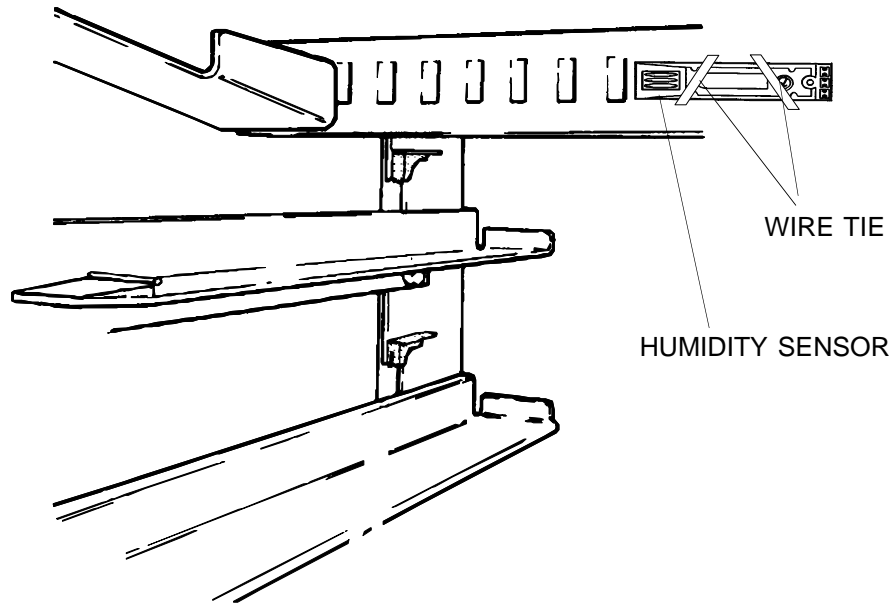
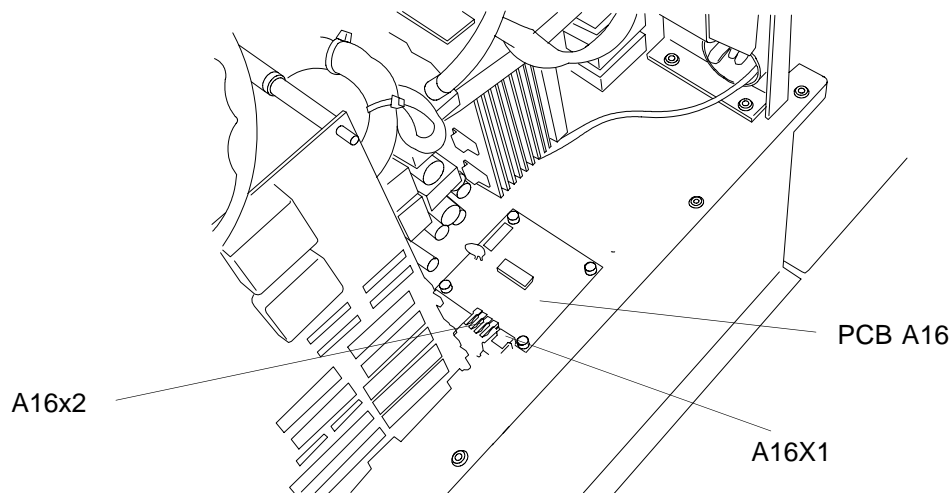

figure 3-2
figure 3-3
6. Fix the HUMIDITY SENSOR with 2 large WIRE TIES to the front of the CABLE DUCT. See figure 3-2. Route its cable through the DUCT to the side of PCB A1.
7. Close the CABLE DUCT. See figure 3-2. Ensure that all wires are inside and not trapped by cover.
10. Connect HARNESS CONNECTOR A16P2 to CONNECTOR A16X2 on PCB A16. Fig. 3-3
11. Connect the HUMIDITY SENSOR (fig. 3-2) to A16X1 on PCB A16. Fig. 3-3